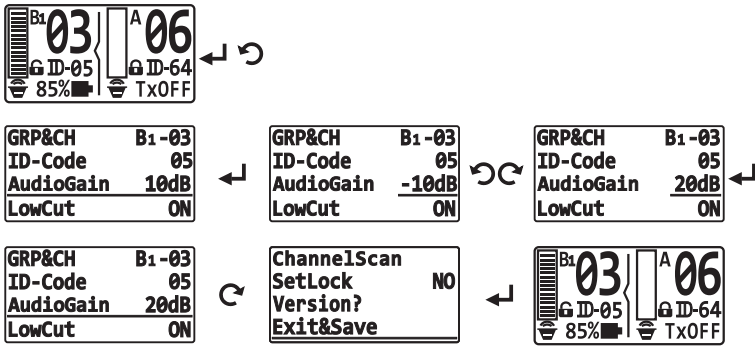

Fig. 21
- (A) Press knob once at Home Screen, turn and locate ID-Code status bar. Press once to activate parameter setting.
- (B) Turn right or left to one of the programmed parameter value.
- (C) Press once to accept change. To save changes, turn and locate Exit & Save status bar, press once to save and return to home screen.
- (D) Press ACT sync button to synchronize the newly changed with transmitter once ID-Code setup is done.
- (E) A total of 64 different IDs (01-64) can be selected for each channel. A proprietary 65th Pairing Mode (**P**) can be selected for 1-to-1 transmitting and preventing audio signals received from other receivers.
5. Setting Audio Gain, see Fig. 21: